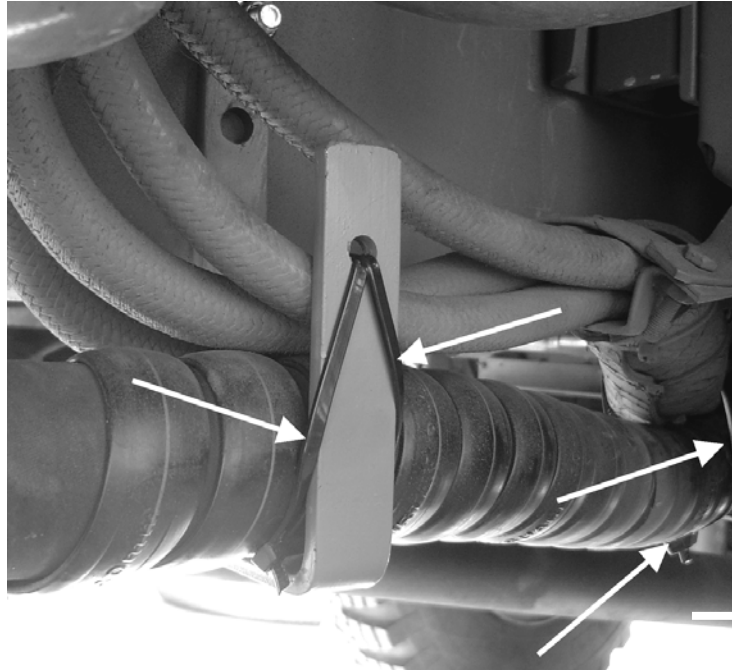

Figure 7 Securing Fuel Lines and Hydraulic Hoses
- d. Route cable tie through hole in bracket and secure fuel lines and hydraulic hoses (see Figure 7).
- e. Apply cable ties to hydraulic hoses as necessary (see Figure 7).